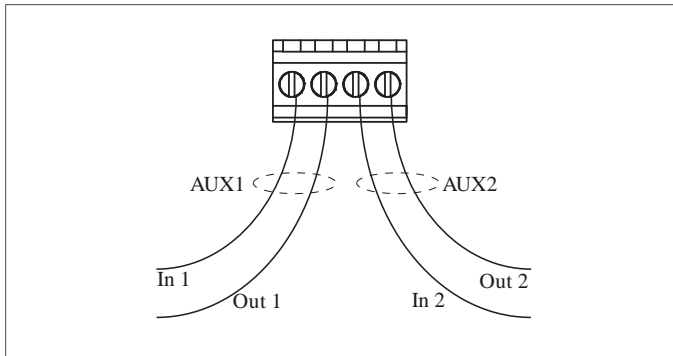

Fig. 6: Connecting terminal (AUX) for external signal generator
The device is equipped with two potential-free contacts, AUX1 and AUX2 (Bild 6), to which a KNX radio binary input can be connected, for example. In this way, for example, an alarm signal can be sent to the KNX bus. The alarm signal remains activated until the alarm (see Hazardous situation, water leakage) is acknowledged by pressing the OK button (3) on the sensor unit. The wiring of the potential-free contacts and their meaning is shown in Table 3.
- Connect cooker supply cable 1-phase (17) to the connection terminals **IN** (22/23/29) of the power control unit. When doing so, first connect the earth conductor.
- Insert the connection cable (30) through the cable entry (10).
- Fix the strain relief (26).
- Connect the connection cable 1-phase (30) to the connection terminals **OUT** (22/23/28) of the power control unit. When doing so, first connect the earth conductor.
- Optional: Insert the water leakage sensor into the connection socket (12) of the power control unit (9) (see Installation of water leakage sensor).
- Fasten the casing cover (13) using the fastening screws (14) on the lower casing.
- Optional: Connect external signal generator to potential-free contact (18) (Bild 6).